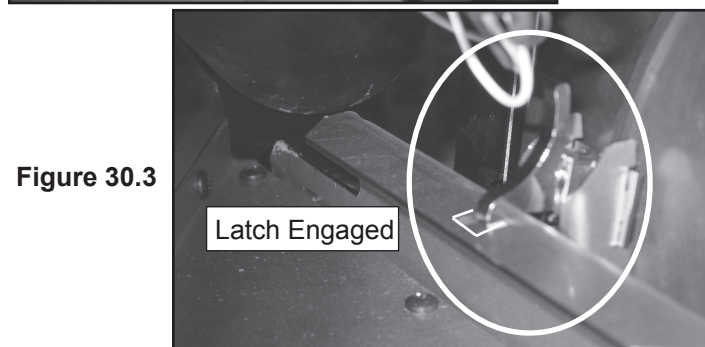

Figure 30.3
10. When the blower is properly positioned the latch will engage the notch to hold the blower in place. **Figure 30.3.**